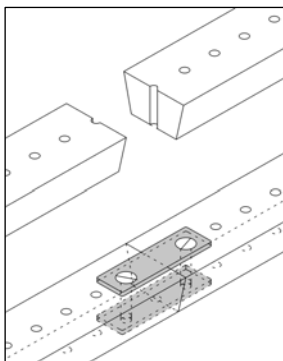

Figure 17
- Shorten the belt according to Figure 17 and attach V-belt lock.